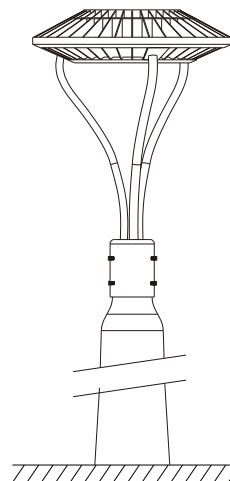

Figure 5
5. The lever arm is inserted into the pole and the screw is fastened. (Figure 5)